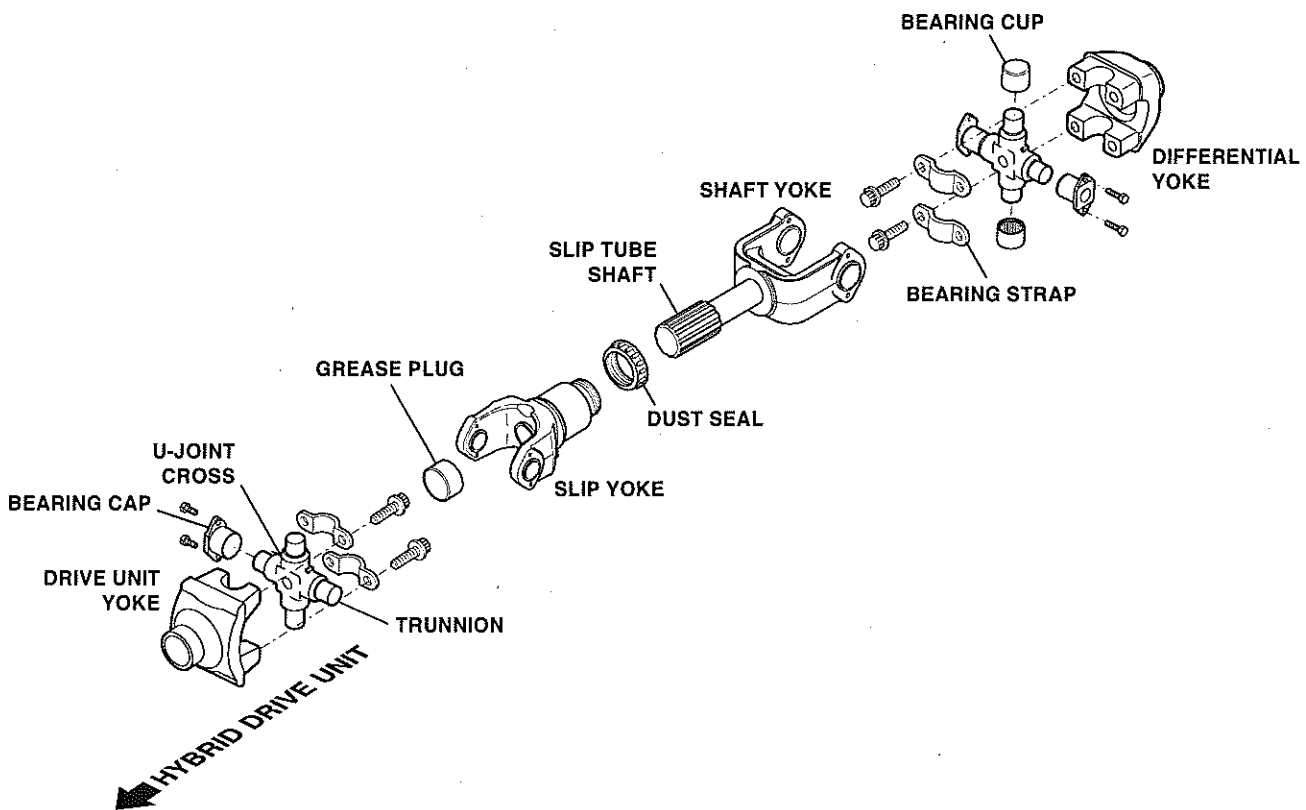

Figure 1-14, Driveshaft
1. Remove retaining screws and bearing straps on one U-joint. See Figure 1-14.